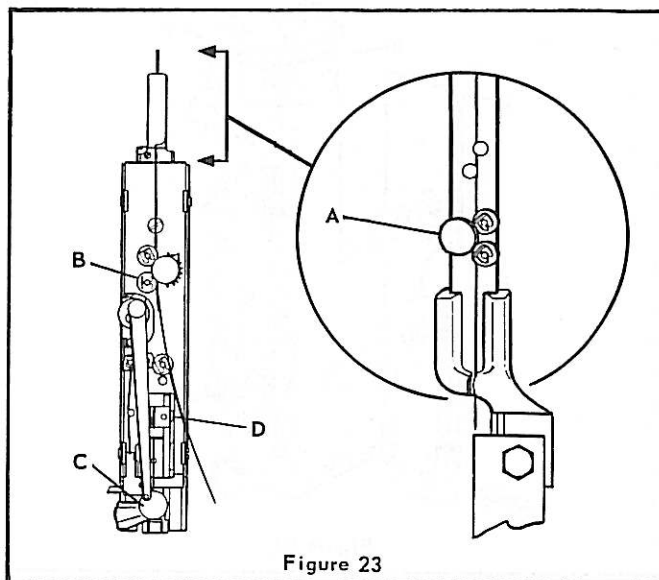

Figure 23
O. Wire Straighteners (Figure 23)
The lower wire straightener curves the wire to the right so that it enters the swivel (Index C). If the wire is not curved enough it hits the swivel and buckles. After the wire has been cut, if there is not enough curve in the wire, it will fall out of the swivel. Adjust the lower wire straightener so that the wire curves as shown in Figure 23. Improper straightening of the wire can also cause the stitch legs to buckle or turn out because they strike the clincher improperly. Excessive tension on the wire straighteners prevents the grip (Index D) from feeding the wire smoothly. This causes variation in leg length.